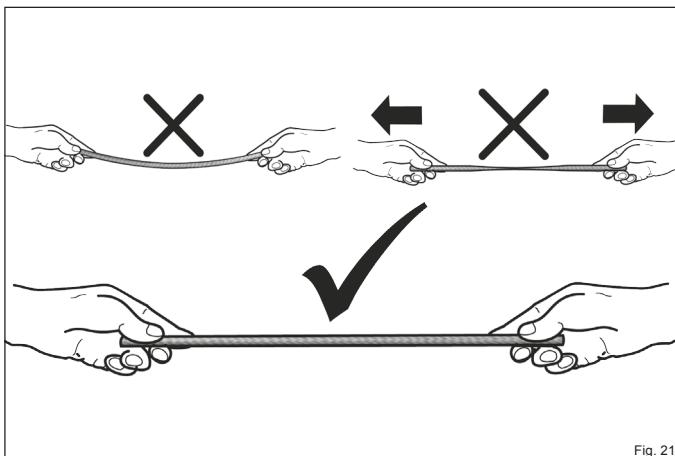

Fig. 21
- When installing the seal, ensure it does not sag and is slightly compressed (Fig. 21).